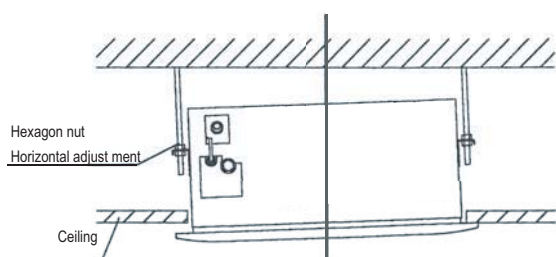

Fig.5-14
- If the gap between the panel and ceiling still exists after fastening the screws, the height of the indoor unit should be modified again. (Refer to Fig.5-14-left)
- You can modify the height of the indoor unit through the openings on the panel's four corners, if the lift of the indoor unit and the drainpipe is not influenced (Refer to Fig.5-14-right).